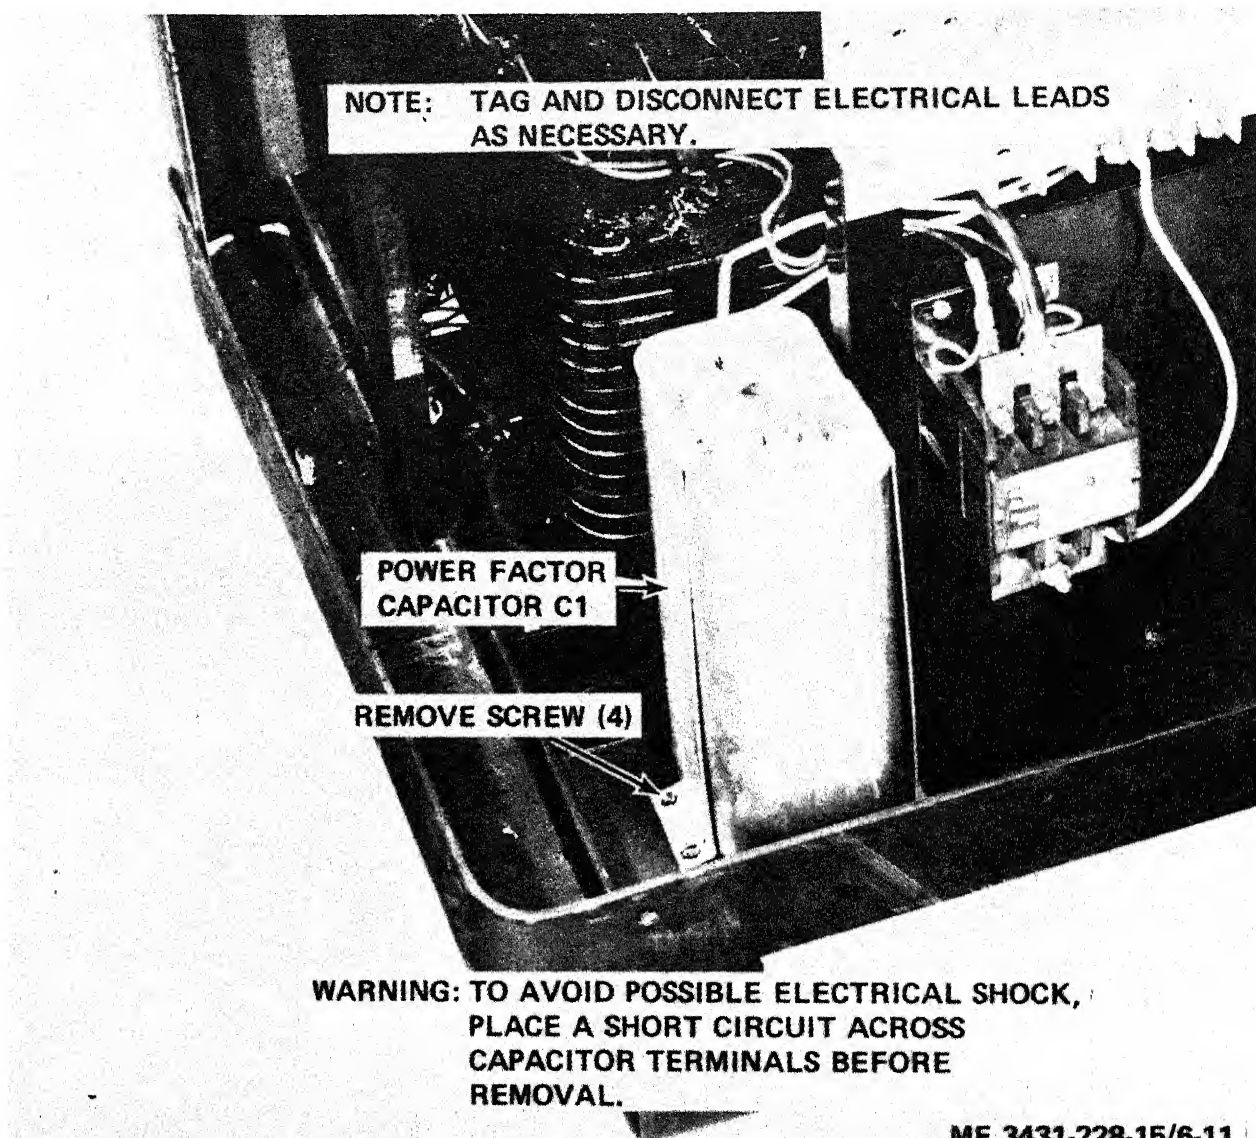

Figure 6-11. Power factor capacitor C1, removal and installation.
(1) Remove the top and housing from the welding machine (para 3-20).
(2) Refer to figure 6-11 and remove the power factor capacitor.
(1) Refer to figure 6-11 and install the power factor capacitor.
(2) Install the top and housing on the welding machine (para 3-20).